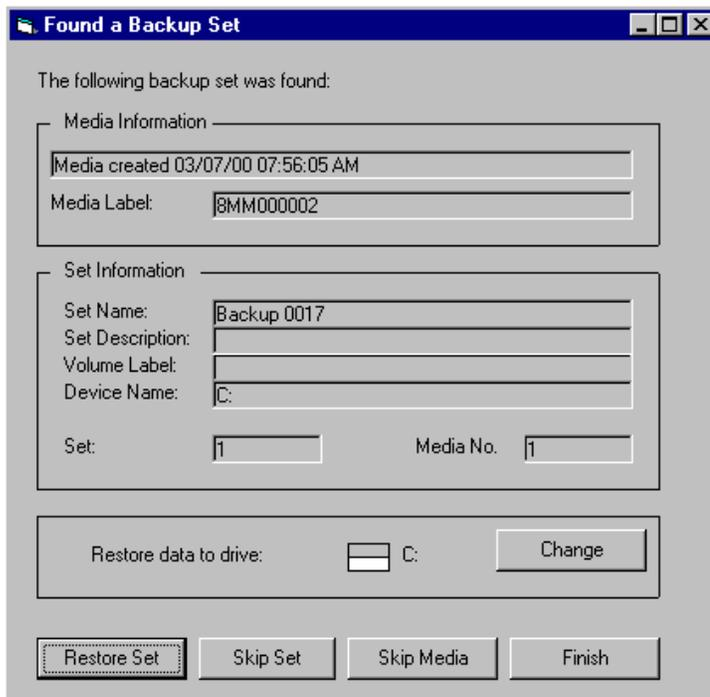

Figure 19: Found a Backup Set screen
- The next screen in the disaster recovery process is the Found a Backup Set screen shown in Figure 19. This screen shows that a backup set was found and waits for the user to click Restore Set, which restores the backup data to the disk drive.